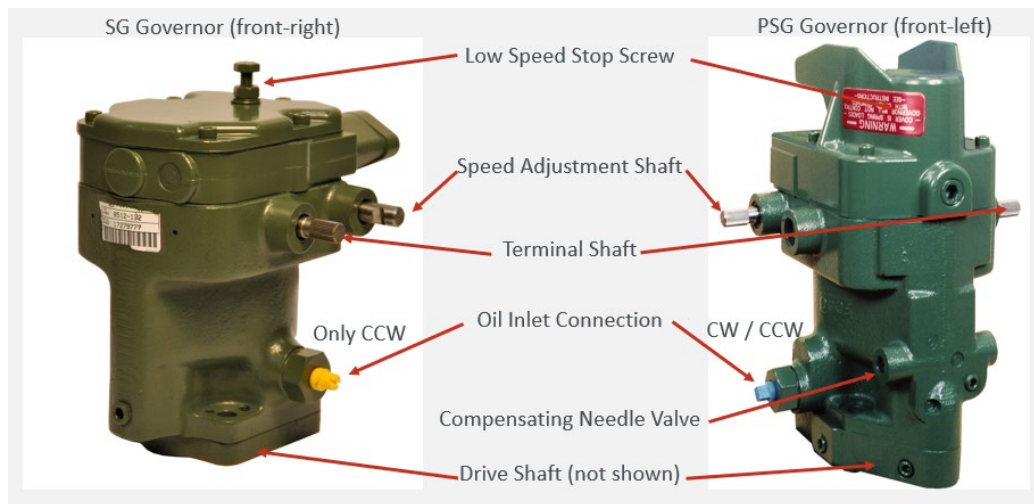

Figure 4-1. Comparison Diagram of SG & PSG Governor
- The PSG governor oil inlet connection is only on the left side. SG has inlet on right and left sides depending on the rotation of the drive shaft. See Figure 4-1.